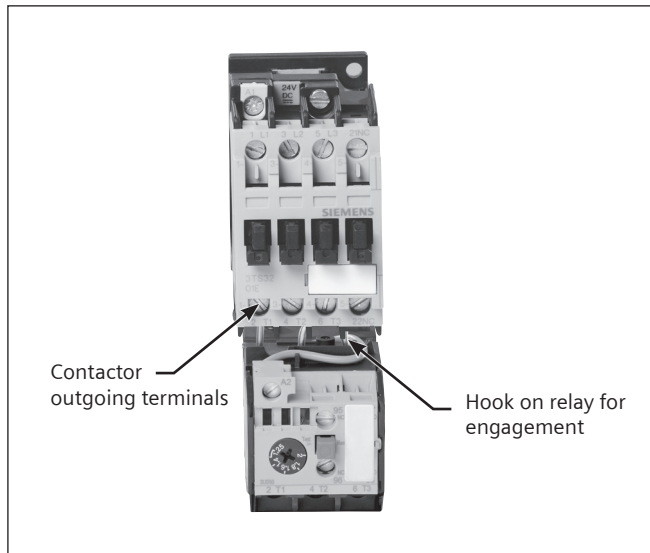

Fig. 4: Contactor -Relay Connection Replacement of coil
- Replacement of Contactor Or Individual mounted Overload Relay (Refer Fig. 4):
4. Follow instructions given in Fig. 4 (For contactor mounted relay) / Fig. 5, 6 (For individual mounted relay) for removal of relay.
Care should be taken to fix the relay terminals & relay to contactor / adaptor in the exact position shown in Fig. 4, 5, 6.